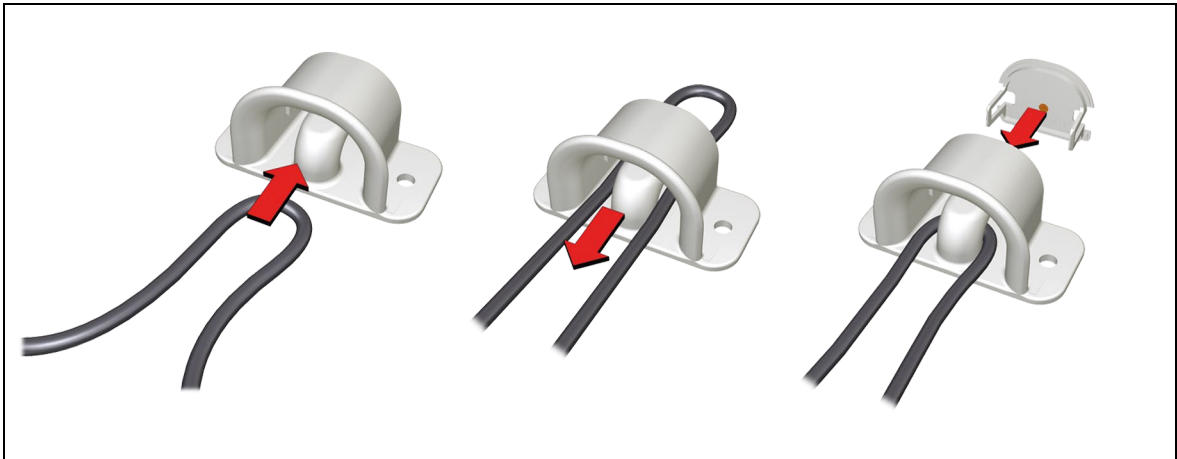

Figure 13 Routing the connecting cable through the mounted cable grip
The method for routing the connecting cable through the cable grip of the ECS control unit is shown in Figure 13.
- 1 Take a loop of the connecting cable and guide it through the strain relief cable grip, as shown in Figure 13.